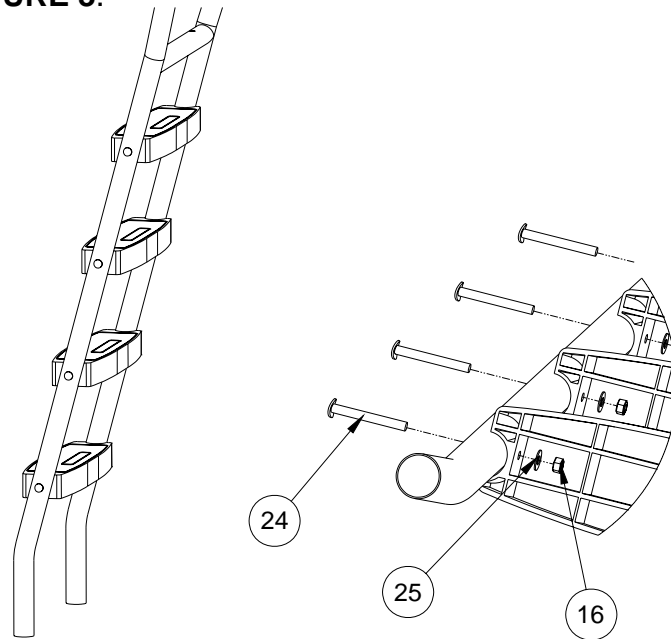
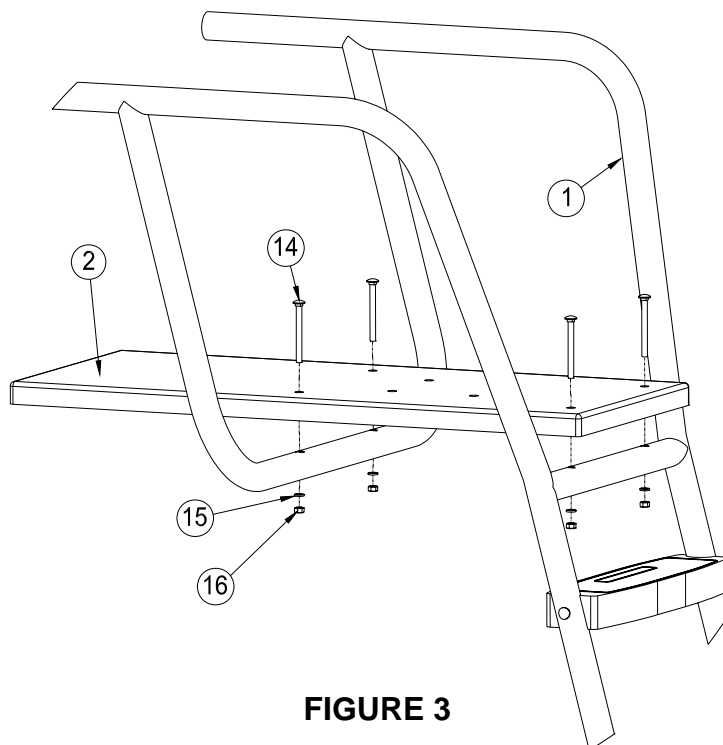

FIGURE 2
FIGURE 3
1. The Guardian™ Lifeguard Stand comes with all four steps pre-assembled as shown in **FIGURE 2**. Begin by locating the hardware package and locate the hardware shown in **FIGURE 3**.
2. Place **Footboard**, (item 2) onto **Lifeguard Rail Frame** (item 1) and align holes to each other as shown in **FIGURE 3**. Place **Carriage bolts**, (item 14) through **Footboard** and Lifeguard rail Frame. Place **3/8" Lock Washers** (item 15) and **3/8" Hex Nuts** (item 16) onto carriage bolts and tighten. **DO NOT OVER TIGHTEN!**